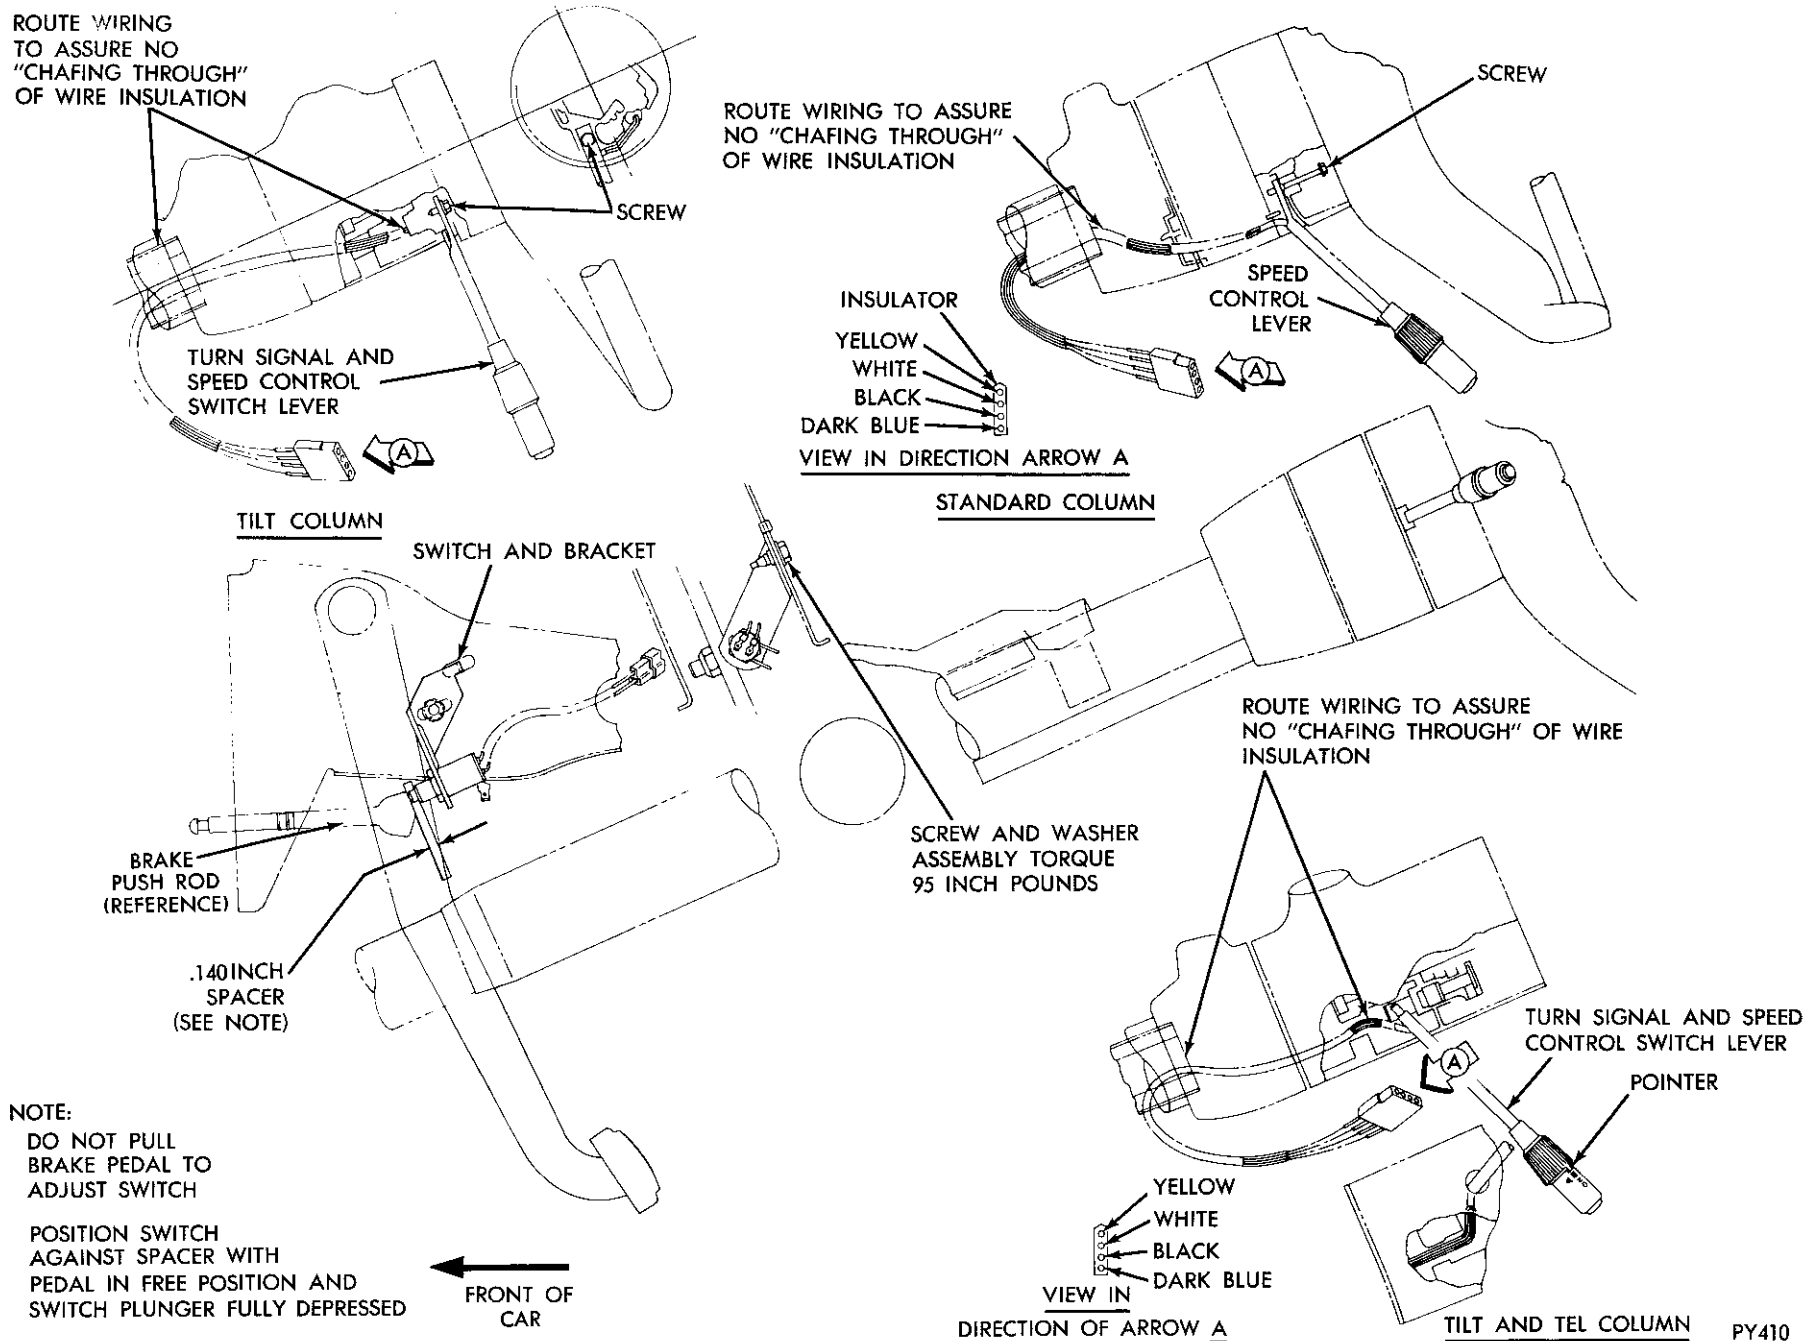

Fig. 4—Stop Lamp and Speed Control Switch Adaptation—Chrysler—Imperial
(1) Disconnect battery negative terminal at battery negative post and speed control connector at lower end of column.
(2) Remove steering wheel. See Group 19 "Steering".
(3) Remove turn signal switch and lever attaching screw.
(4) Remove steering column cover plate and support steering column while clamp is removed to prevent column from sagging.
(5) Remove wire harness trough to facilitate reaching the lower end of speed control switch lead wires (Figs. 4 through 5) and remove wires and terminals from connector with Wire Harness Tool C-4135.
CAUTION: Check color coding of wires to insure they are installed in the proper connector at reassembly. See Figures 4 and 5.
CAUTION: Check color coding of wires to insure they are installed in the proper cavity of connector at installation and assembly. See Figures 4 and 5.